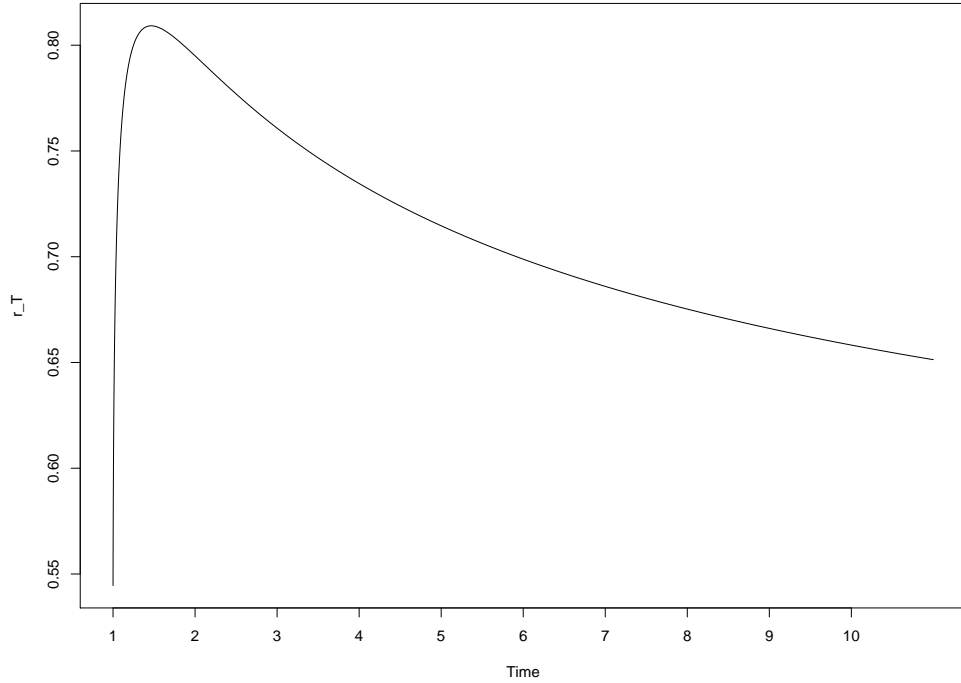

Figure 2: Evolution of the death rate,  $r_T$ , over a time  $t \in (0, 10)$
Applying equation (3), we obtain that the expected life length of the system is  $\mathbf{E}\{T\} = 1.2948$ . The plot for the death rate of the system can be seen in Figure 2. It shows a high increase in the death rate in the beginning with a slow decrease after  $t \geq 1$ , thus it can not be said that it has IFR (increasing failure rate) nor DFR (decreasing failure rate).